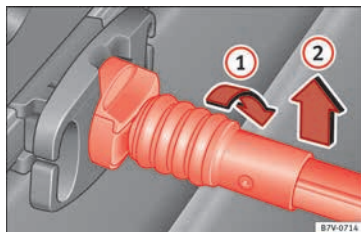

Fig. 172 Release the baggage net
- Rotate the attachment rod 90° to the right » » » **Fig. 172** ① until you can see the red mark on the rod. Pull the attachment rod upwards ②.